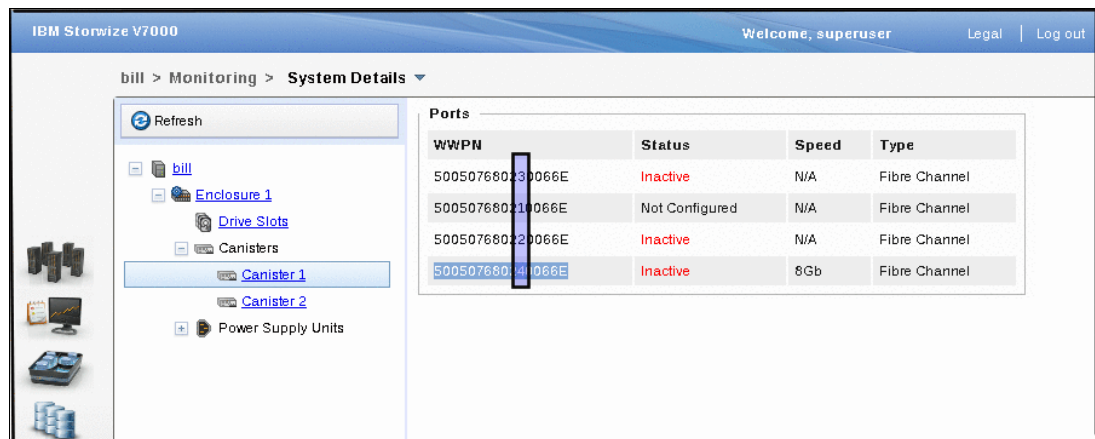

Figure 2-3 Storwize V7000 System Details
2. Note that the Storwize V7000 is Bill, and Port 4 in Canister 1 is highlighted (Figure 2-3).